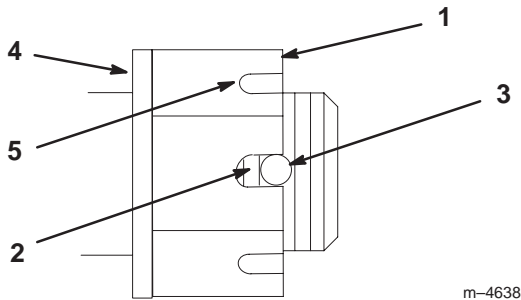

Figure 53
3. Torque the slotted nut to 125 ft–lb (170 N·m) (Fig. 53).
4. Check the distance from the bottom of the slot in the nut to the inside edge of the hole. Two threads or less should be showing (Fig. 53).
5. If more than two threads are showing, remove the nut and install a washer between the hub and nut (Fig. 53).
6. Torque the slotted nut to 125 ft–lb (170 N·m) (Fig. 53).
7. Tighten the nut until the next set of slots line up with the hole in the shaft (Fig. 53).